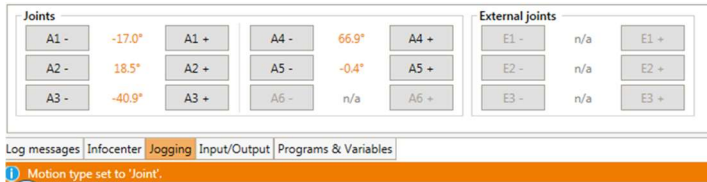

Figure 7.6: The software buttons for "Joint" movements in "Jogging" tab. In both cartesian modes, the buttons change to X, Y, Z, A, B and C.
- "Joint": A click on A1 to A6 moves the corresponding robot axis (if available). E1-E3 move the external joints. This could be a linear or rotational axis (Figure 7.6).